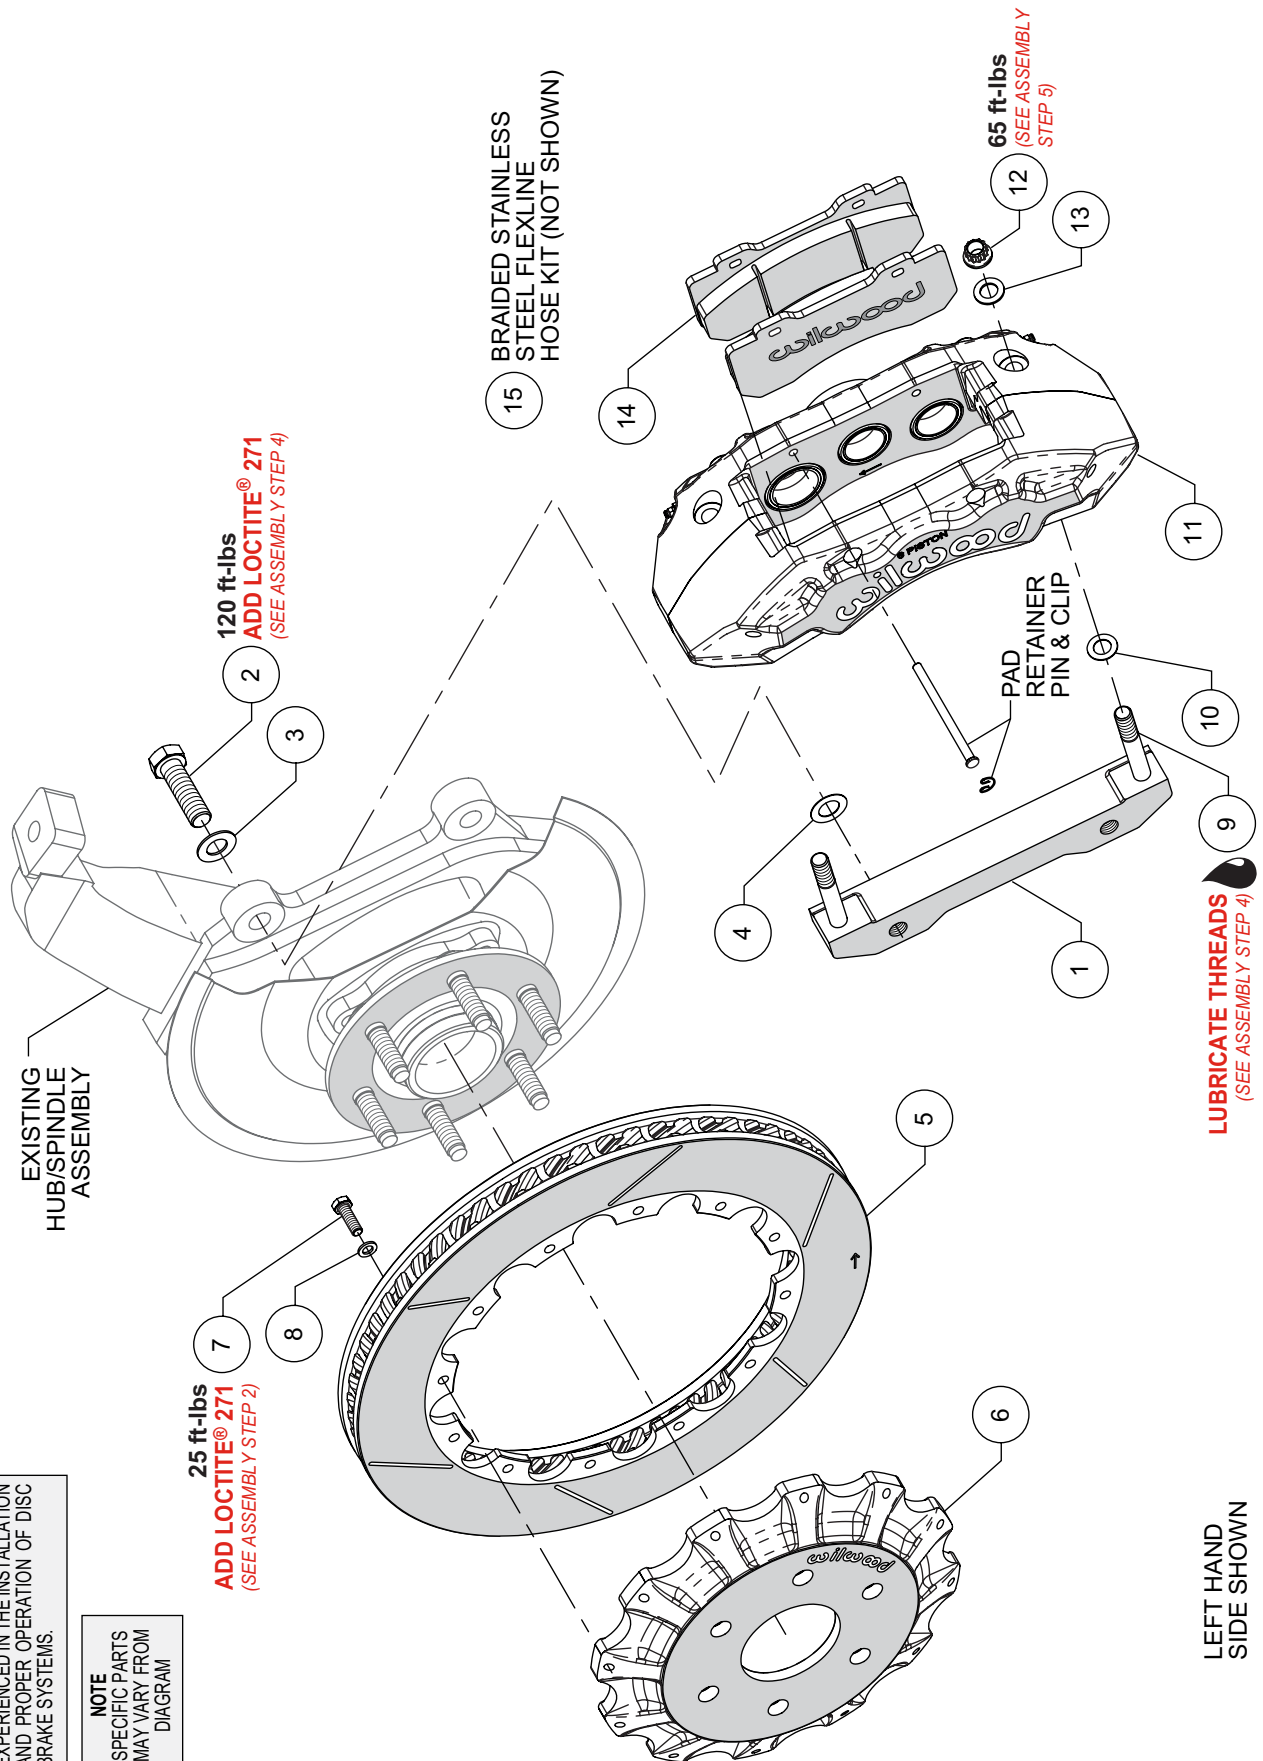
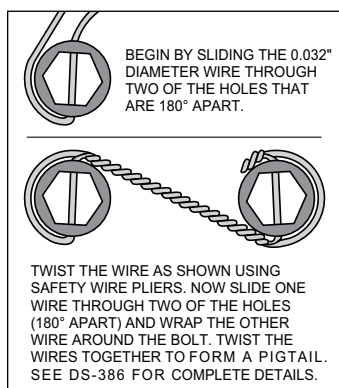

Figure 1. Typical Installation Configuration
Figure 3.
NOTE: Numbers in parenthesis refer to the parts list and Figure 1 on the preceding pages.
STEP 1 The caliper mount bracket (1) should initially be installed with clean, dry threads on the mounting bolts. Orient the bracket as shown in Figure 1 and Photo 1, and install using bolts (2) and washers (3). Initially place one .024" thick shim (4) on each bolt between the bracket and upright, Figure 1 and Photo 2 (arrow). Temporarily tighten the mounting bolts. **NOTE:** The bracket must fit squarely against the mount bosses on the upright. Inspect for interference from casting irregularities, machining ridges, burrs, etc. Later, after the caliper alignment has been checked, the mount bolts will be secured using red Loctite® 271.
STEP 2 Orient the rotor (5) and the hat (6) as shown in Figure 1 and Photo 3. Attach rotor to hat using bolts (7) and washers (8). Using an alternating sequence, torque to value shown in Figure 1. For an added measure of security, the bolts may be safety wired using standard .032" diameter stainless steel safety wire as shown in Figure 3. Please refer to Wilwood's data sheet DS-386 (available at www.wilwood.com/Pdf/DataSheets/ds386.pdf) for complete safety wire installation instructions.
STEP 4 NOTE: This kit contains distinct right and left hand calipers that must be mounted in a specific direction, as described below. Lubricate the caliper mounting studs (9) with lightweight oil. Initially place one .032" thick shim (10) on each stud as shown in Figure 1 and Photo 5. Mount the caliper (11) onto the bracket (1) using lock nuts (12) and washers (13), Figure 1. Ensure that the caliper is mounted so that the largest pistons are at the rotor exit end of the caliper, in relation to the direction of rotor rotation. Temporarily tighten the lock nuts and view the rotor through the top opening of the caliper. The rotor should be centered in the caliper, Photo 6. If not, adjust by adding or subtracting shims (4) between the bracket and the upright. Always use the same amount of shims on each of the two mounting bolts. Once the caliper alignment is correct, remove the bracket mounting bolts (2) one at a time, apply red *Loctite*® 271 to the threads, and torque to value shown in Figure 1.
STEP 5 Remove the two pad retaining pins from the caliper by carefully popping out the pin retaining clips and sliding out the pins. Insert the brake pads (14) into the caliper, with the friction material facing the rotor, as shown in Photo 7 and secure the brake pads in place with the pad retaining pins and clips, Photo 8. Check that the top of the brake pad is flush with the outside diameter of the rotor, Photo 8. If not, adjust by adding or subtracting shims (10) between the caliper and the bracket. After the caliper pad height is set, torque the caliper lock nuts to value shown in Figure 1.
STEP 7 Install Wilwood's stainless steel braided flexline hose kit (14), P/N 220-16802 included with this kit, as shown in Photos 9 and 10. The caliper inlet fitting is a 1/8-27 NPT (use PTFE tape on pipe threads for proper sealing to caliper). **Carefully route hoses to prevent contact with moving suspension, brake or wheel components.**